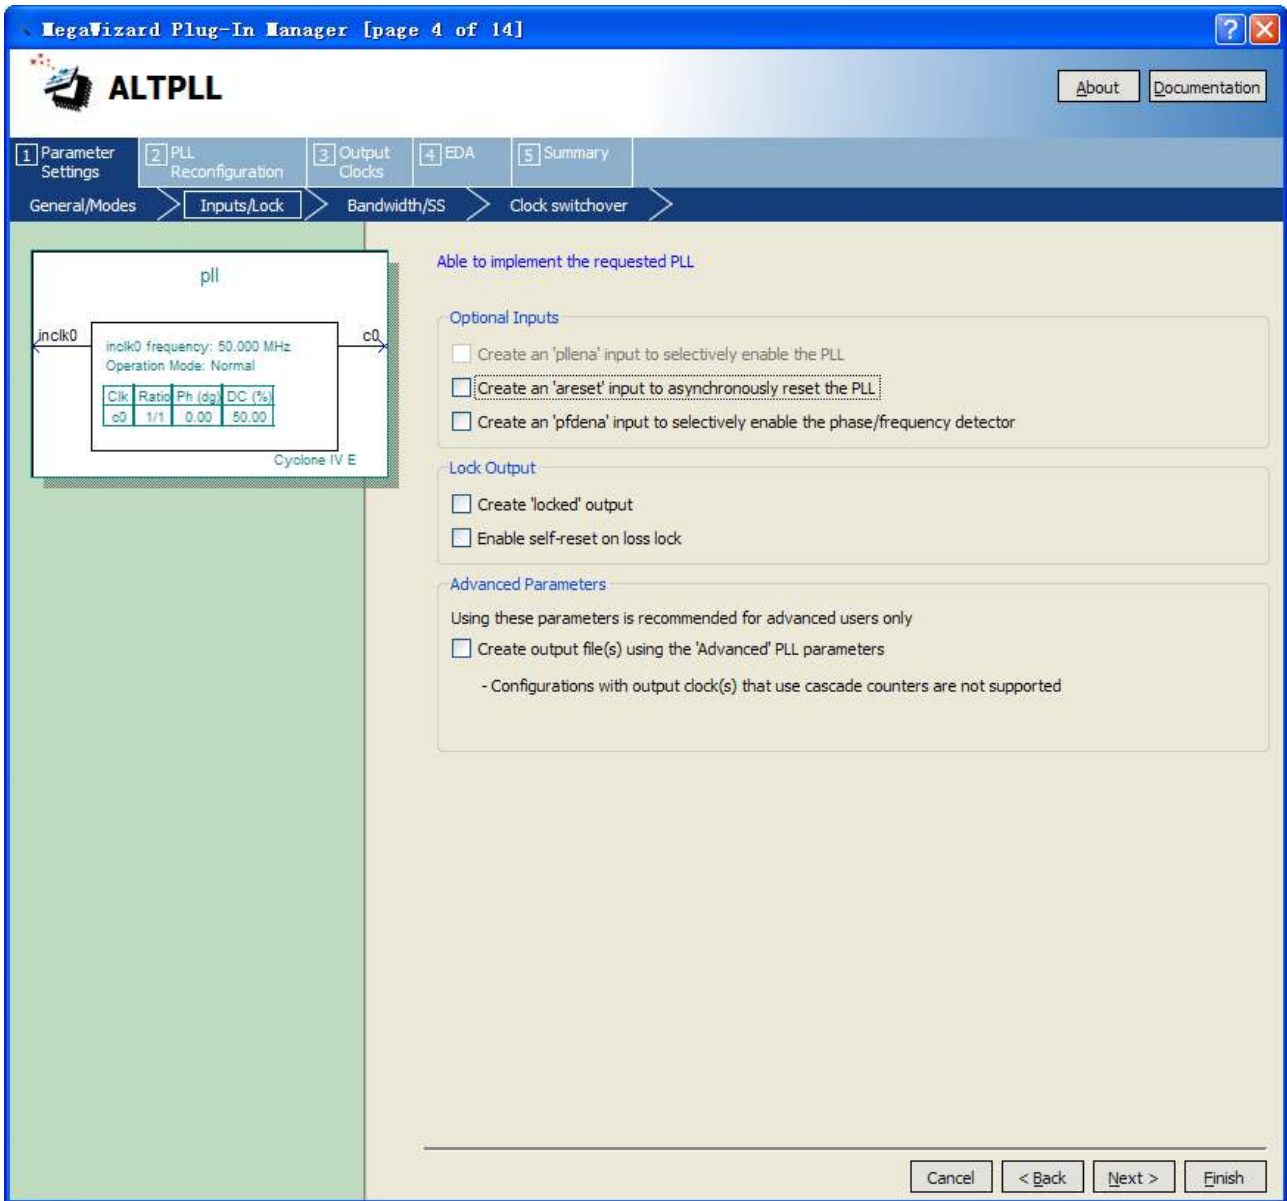

Figure 6-22 MegaWizard Plug-In Manager [page 4 of 14] Selections
6. Unselect all options on MegaWizard page 4. As you turn them off, pins disappear from the PLL block’s graphical preview. See Figure 6-22 for an example.